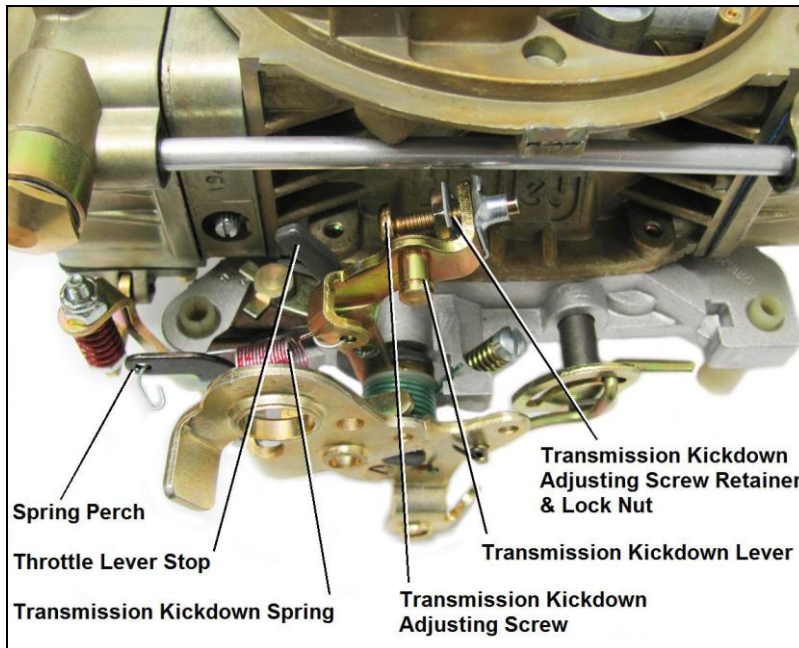

Figure 11
5. Install the main body gasket supplied in this kit. Connect the secondary link (four barrels only) and install the throttle body to the main body. Attach the "C" clip to the secondary diaphragm stem. Remember to readjust the curb idle and replace the carburetor-flange gasket, if the original has been used. Attach the transmission kick-down lever return spring bracket, adjusting screw, and locknut (Figure 11).